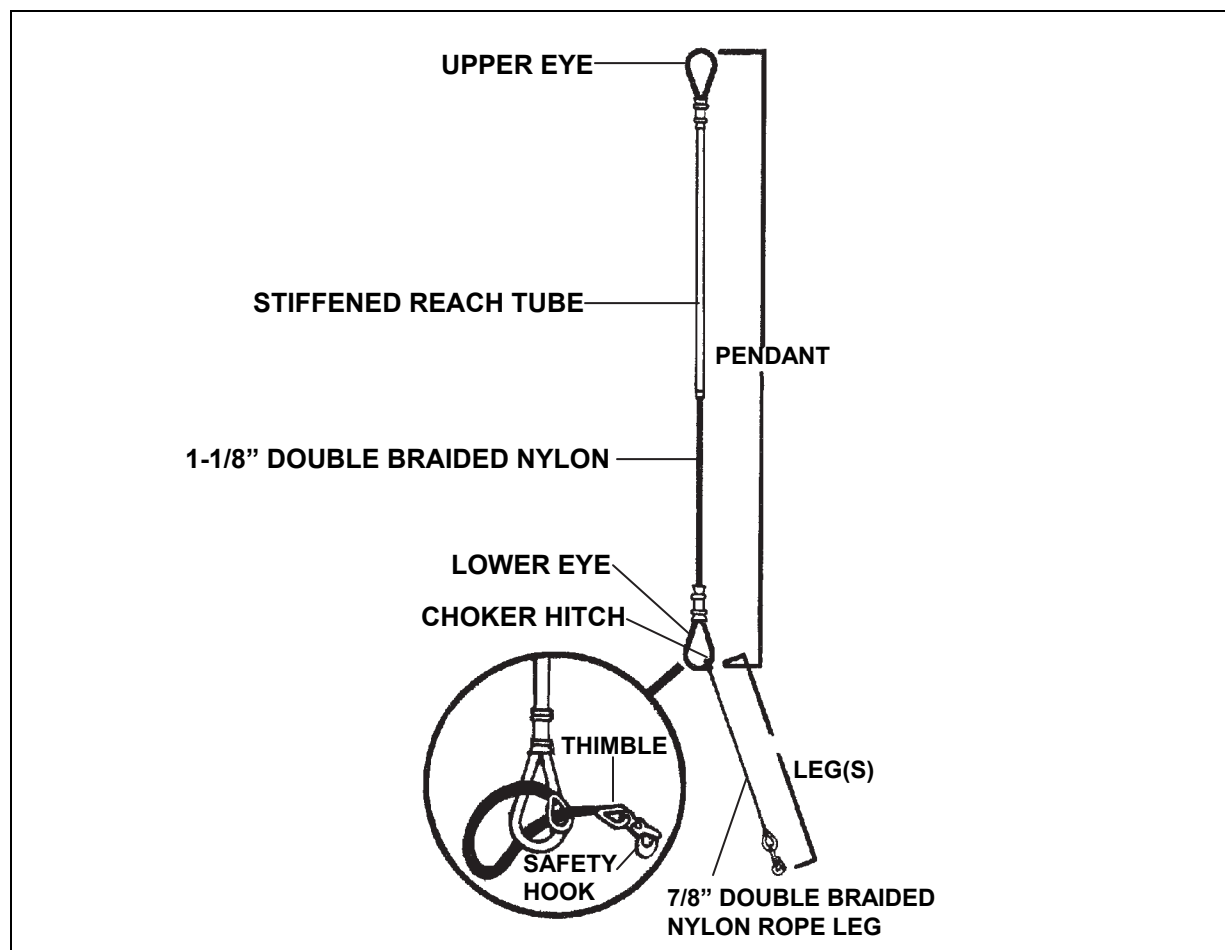

Figure 9-5. Mk 105 Hoisting Sling (Multi-Leg Pole)
- Hoisting Sling Mk105.** This sling, called the multileg-pole pendant or reach pendant, is approved for all types of VERTREP loads up to 6,000 pounds (figure 9-5). The Mk105 consists of two parts: the pendant section and the leg assemblies.
- The legs are made of color-coded, 15/16-inch diameter, double-braided nylon rope with an open eye splice at one end and a positive-closing, self-locking cargo hook at the other end. The regular leg (orange) is 85 inches long and the long leg (green) is 116 inches long. As many as six legs may be attached to the pendant's lower eye by means of choker hitches (figure 9-5 inset). The number of legs used is determined by the number of attachment points on the load. Four regular legs are provided with each pendant at the time of issue. The safe working load for an Mk105 pendant with a single leg is 4,000 pounds. The maximum capacity of the Mk105 pendant is 6,000 pounds when two or more legs are attached. The nylon rope also acts to absorb the shock of the load during pickup by the helicopter. As the helicopter lifts up, the weight of the load is transferred from the flight deck to the pendant. This action stretches the pendant and the result is a smooth load pickup with minimum shock and stress to the aircraft and load.